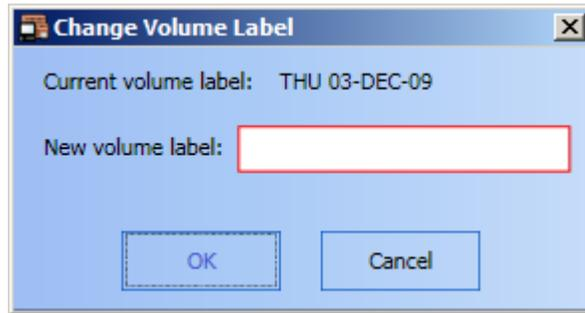

Figure 9-9 Change Volume Label Dialog Box
3. A **Change Volume Label** dialog box appears, as shown in Figure 9-9. From this dialog box, enter the new label in the **New volume label** text field.